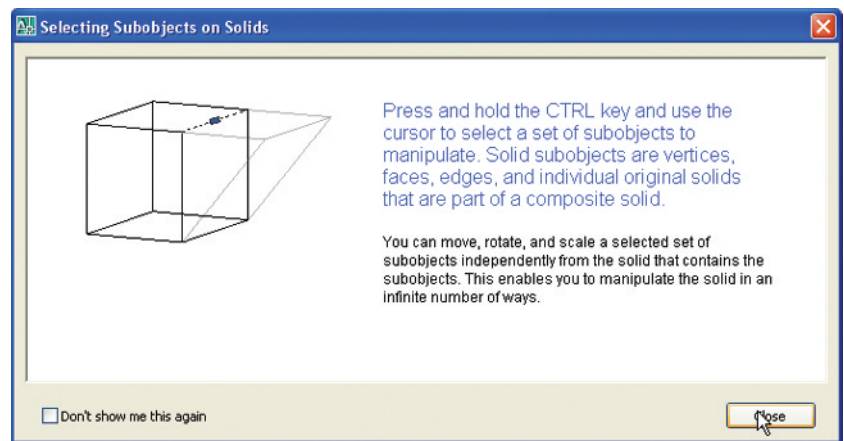

Fig. 18.21 The **Selecting Subobjects on Solids** warning window
9. Press and hold the **Ctrl** key. The **Selecting Subobjects on Solids** warning window (Fig. 18.21) appears. Click its **Close** button. Then while still holding the **Ctrl** key down *pick* the top centre point of the back of the holder. The command line shows: